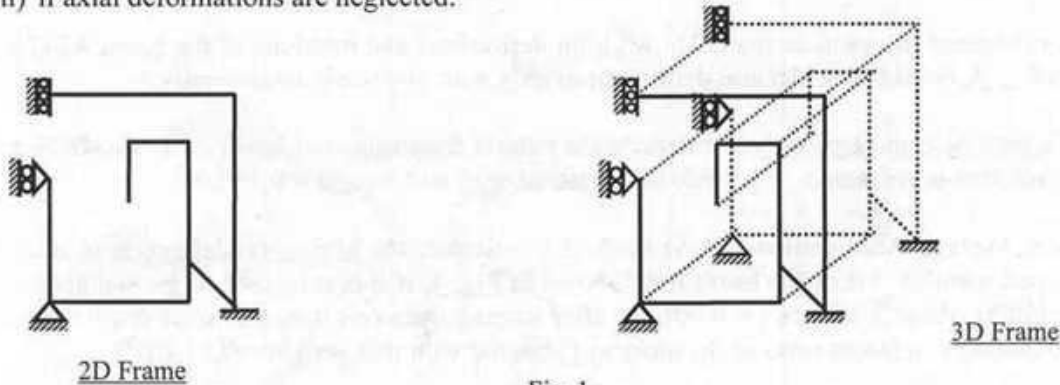

Fig. 1
1. Determine the size of stiffness matrices ( $\mathbf{K}$ ) of the 2D frame and 3D frame shown in Fig. 1
1. Calculate all the probable net widths and the controlling net area for the 14-inch wide by 1/2-inch thick plate with staggered holes to be used as a tension member as shown in Fig.1. Holes are for 3/4-in. diameter bolts. 8 1/3